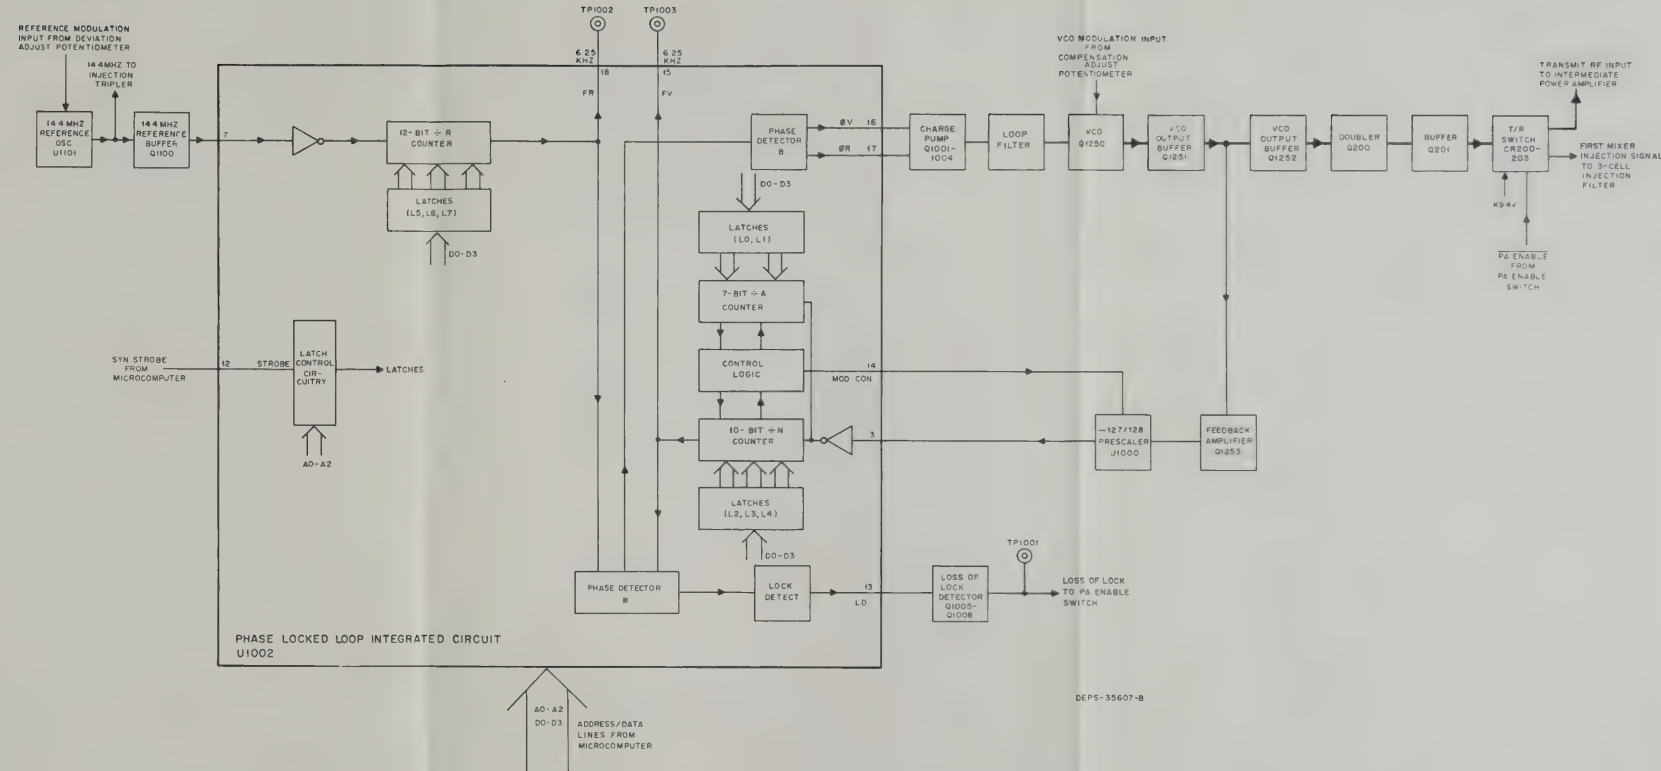

Figure 3. Synthesizer Block Diagram
1.5 SYNTHESIZER — GENERAL DESCRIPTION (Refer to Figure 3 Synthesizer Block Diagram)
1.6.2.4 Please refer to the detailed functional block diagram of the PLL integrated circuit in Figure 3 during the following discussion. The microcomputer programs the PLL integrated circuit via three address lines (A0-A2), four data lines (D0-D3), and a strobe line (SYN STROBE). Programming data for the programmable counters is loaded into eight latches (L0-L7) on the PLL integrated circuit. The microcomputer writes the programming data into the PLL integrated circuit one latch at a time. After the microcomputer loads data into all eight latches, the PLL integrated circuit is programmed, and the synthesizer is ready to generate a transmit or receiver first injection frequency.